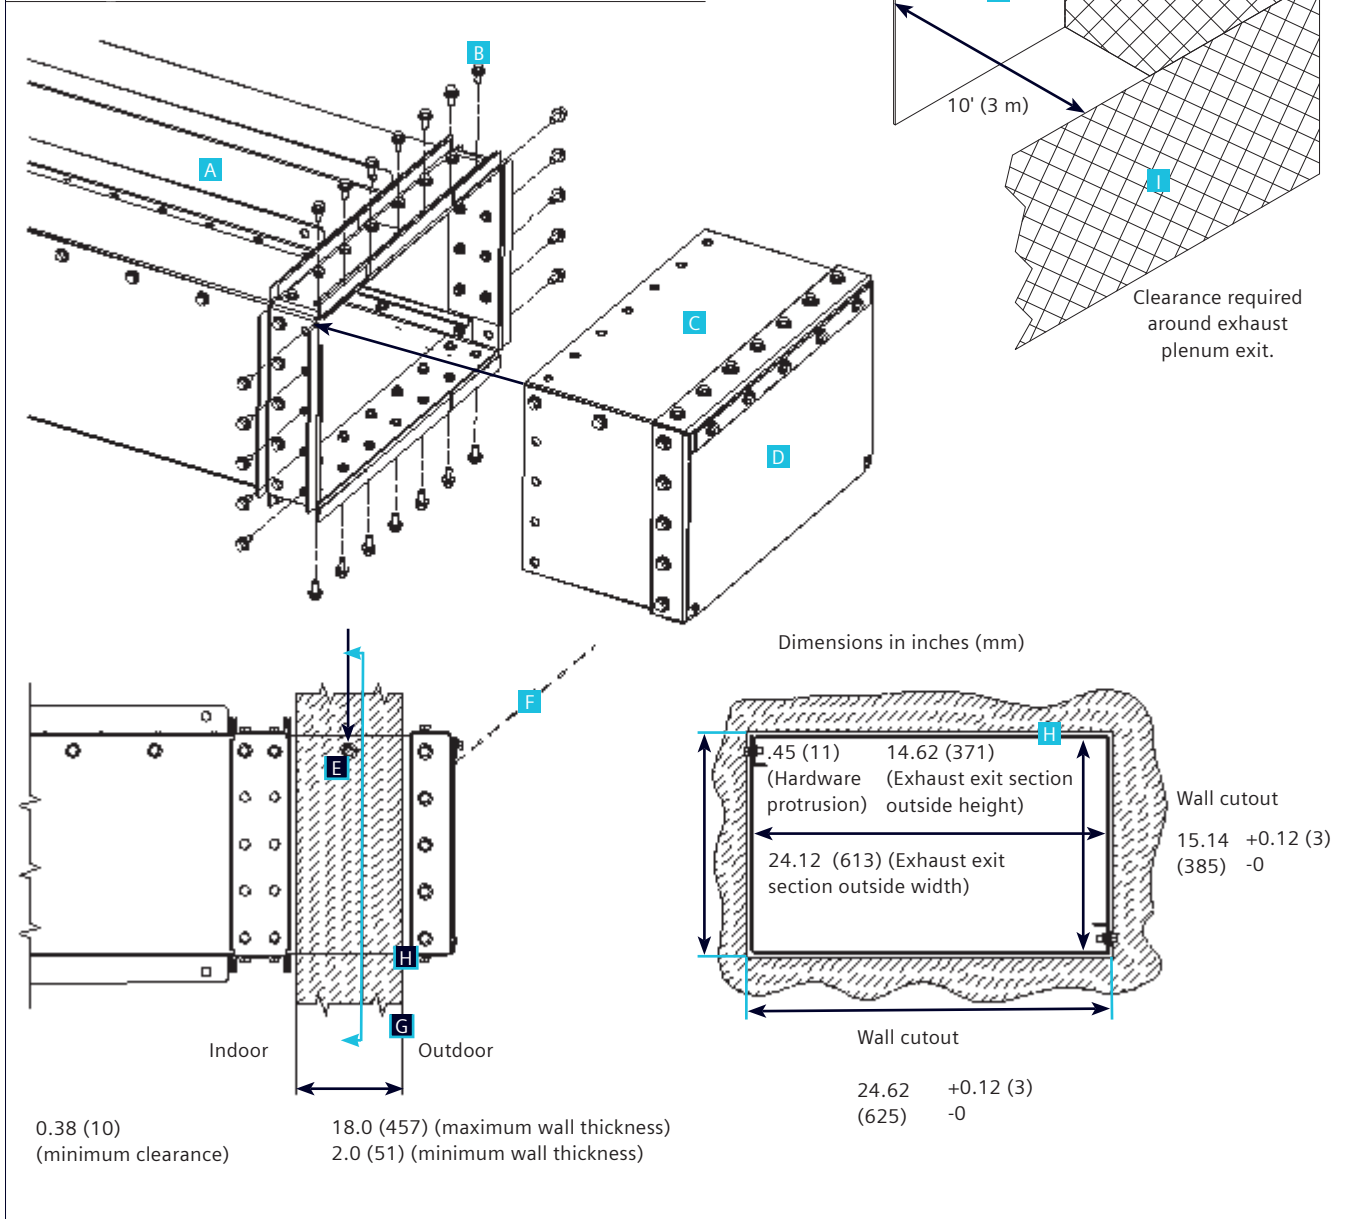

Figure 14: Installation of exhaust plenum exit
Note: The last plenum section before the exhaust exit section passes through the wall must have a minimum clearance of 0.38" (10 mm) to the inner surface of the wall. Refer to Figure 14: Installation of exhaust plenum exit on page 31.
Refer to Figure 14: Installation of exhaust plenum exit on page 31.
6. Apply weather sealant (caulk) around the perimeter of the plenum exit section as shown in Figure 14: Installation of exhaust plenum exit on page 31 to provide a weather tight seal.
The exhaust plenum run is not self-supporting and must have no more than two joints between supports (in other words, no more than 72" (1,827 mm) between supports). There should only be one plenum joint between a support and the PRC interface and there should only be one plenum joint between a support and the location where the plenum passes through an exterior building wall as shown in Figure 14: Installation of exhaust plenum exit on page 31. The plenum supports are not supplied by Siemens and must be supplied by the purchaser or the installing contractor.